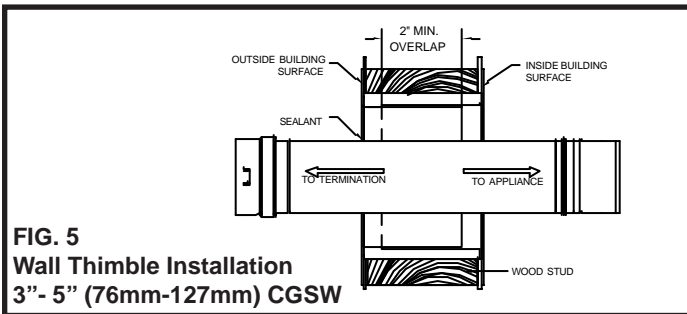

FIG. 5
6. Once the Thimble is installed, Corr/Guard vent pipe can be inserted into the Thimble by inserting the male end first. (See **FIG. 5, 6 & 7**).